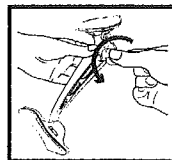
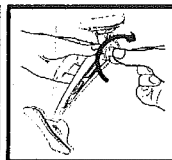

Fig. 3
Fig. 4
2. Firmly push the suction cup (A) against the windshield, and flip the lever (B) toward the suction cup to the locked position.
3. Adjust the angle of pivoting arm by turning the adjustment knob (F). Turn anticlockwise to loosen (Fig.3) and clockwise to tighten (Fig. 4).